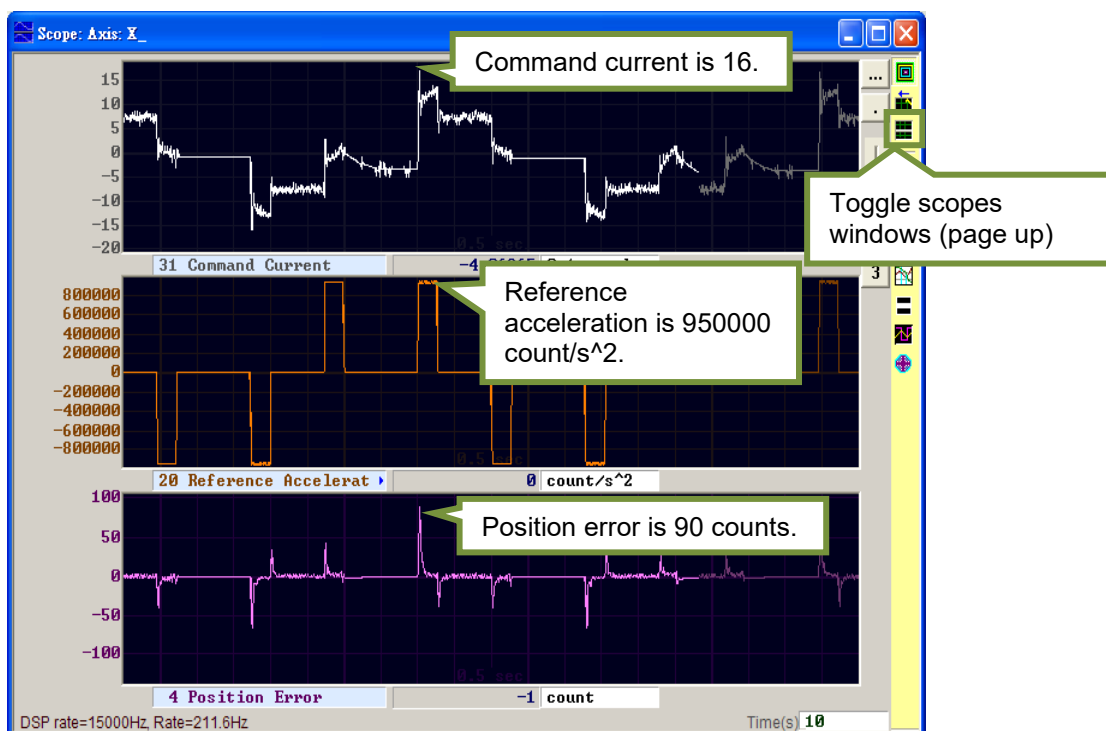

Figure6.6.2.2 The motion trajectory of motor
Step 5: Record the maximum reference acceleration during acceleration. In figure 6.6.2.2, the maximum reference acceleration is 950,000 count/s².